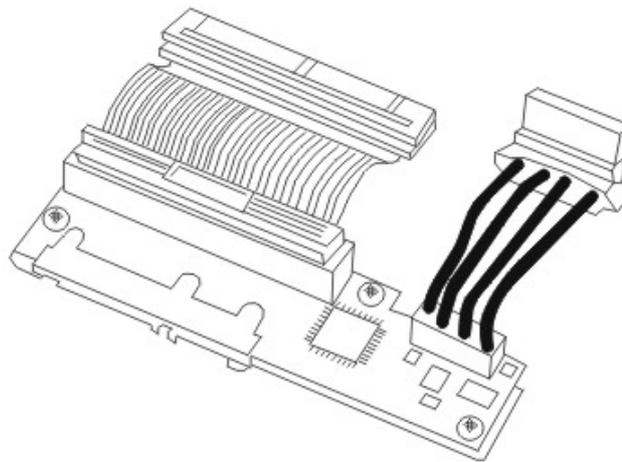

Figure 2-12: SATA-to-PATA MUX Kit
Step 2. Open the SATA-to-PATA MUX kit. A SATA-to-PATA MUX kit is shown in *Figure 2-12*. The MUX kit is mounted onto a metal base plate that has three (3) pre-drilled holes reserved for retention screws